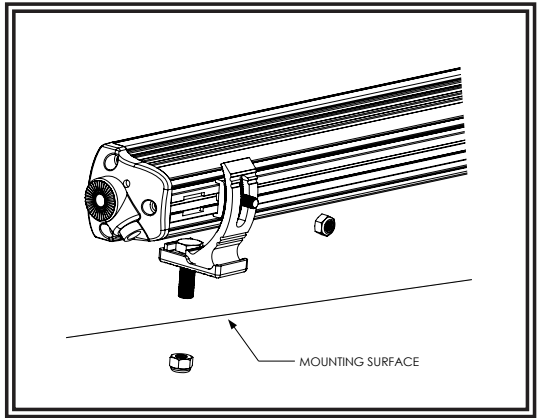

Figure 1
1. Insert the two smaller hex head bolts into the rear channel of the bar. Loosely secure the brackets to the rear of the bar with as shown in FIGURE 1.